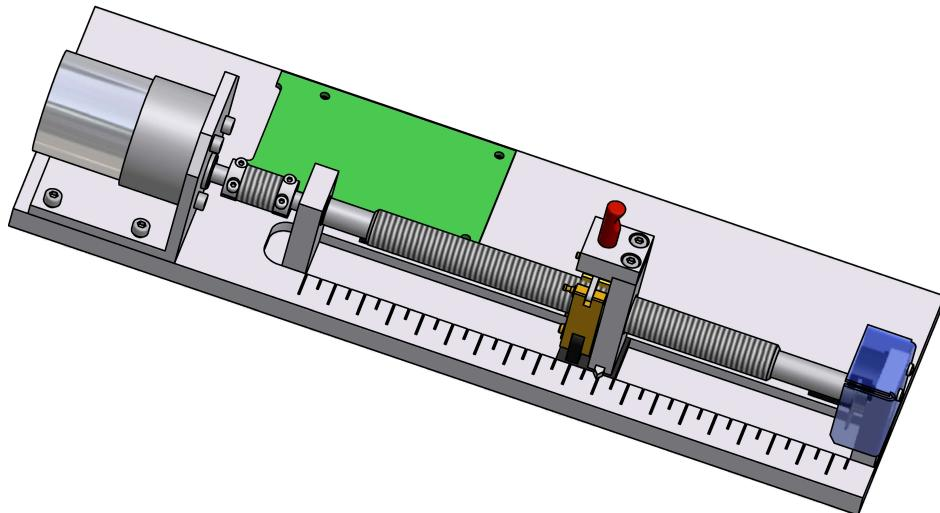

Figure 6 - Cursor carriage assembly
- A carriage assembly with a Printed Circuit Board \(PCB\) board that controls the motor and reads the sensors (Figure 6)